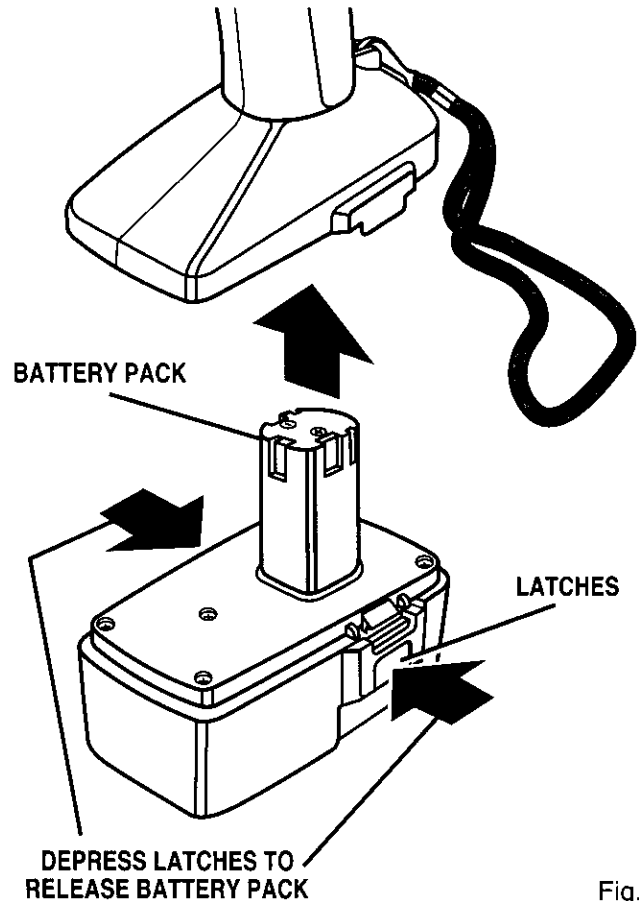

Fig. 5
- Place battery pack in your drill. Align raised rib inside drill with groove on battery pack. See Figure 5.
- Locate latches on end of battery pack and depress to release battery pack from your drill. See Figure 5.